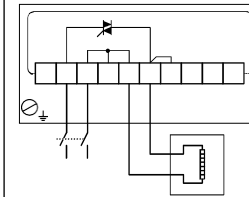

Figure 1 Wiring of supply voltage and output load, with screw terminal to connect earth and bypass to connected heat load.
- Terminals 1 and 2 = Supply voltage, not polarity sensitive (*Figure 1*)
- Terminals 3 and 4 = Output load, resistive single- or two-phase heater (*Figure 1*)
- Screw terminal: Earth connection (*Figure 1*)